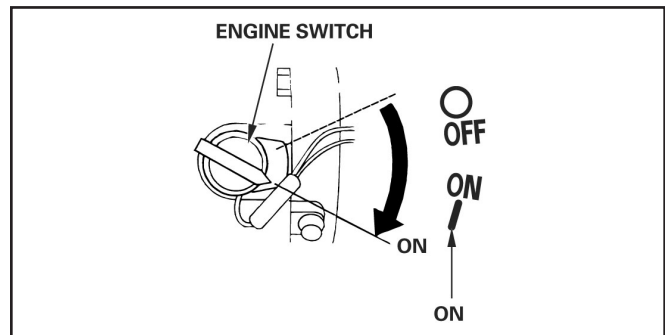

Figure 8. ON-OFF Switch Honda
7. Position the engine ON-OFF switch to the ON position as shown in Figure 8, see figure 5 for Briggs on/off switch location.